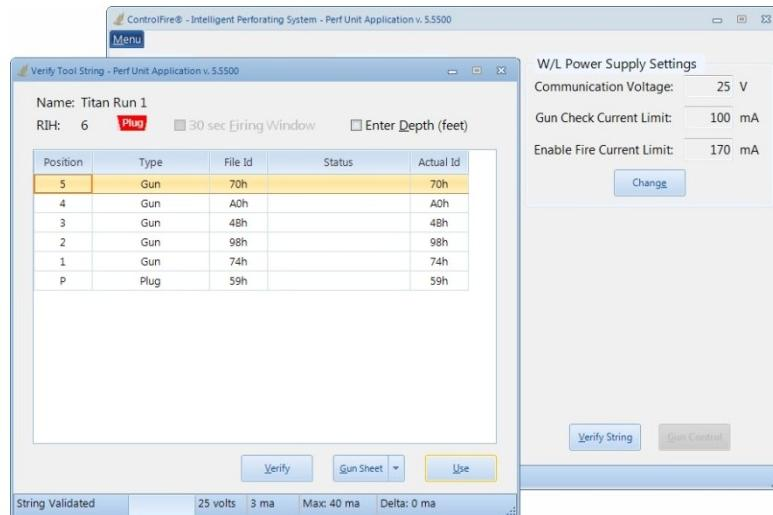

Figure 25
1. Select the **Verify String** button on the Set Up Screen. The Verify Tool String screen appears and the tool string is validated against the Titan Run 1.gsi file. Following a successful scan the status bar displays “String Validated” as seen in Figure 25
In the event that communication of a ControlFire® Switch is lost in the middle of the tool string, it will be necessary to initiate the Gun Skip using the **Verify Tool String** button on the Set Up screen in Figure 25. This event could be caused by broken wires, shorted wires, loss of ground, bad feed-through and etc.